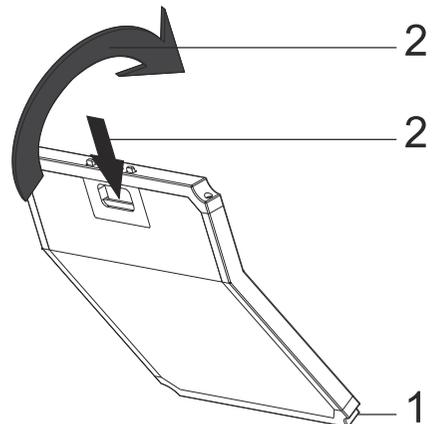

Fig. 7: CARBON FILTER
- 1-Place the lower part of the carbon filter to the motor cabinet.Fig. 7
- 2-Press on the tab of the carbon filter and push it forward, and ensure that the tabs of carbon filter are engaged and locked.Fig. 7